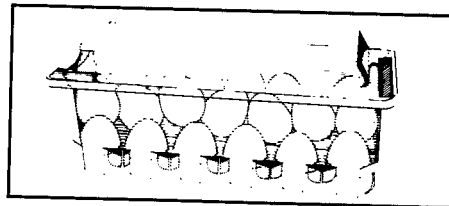

FIGURE 62
**Egg Storage.** A removable take-to-counter egg bucket stores eggs in a see-thru covered container. See Figure 62. To clean, handwash in warm soapy water.